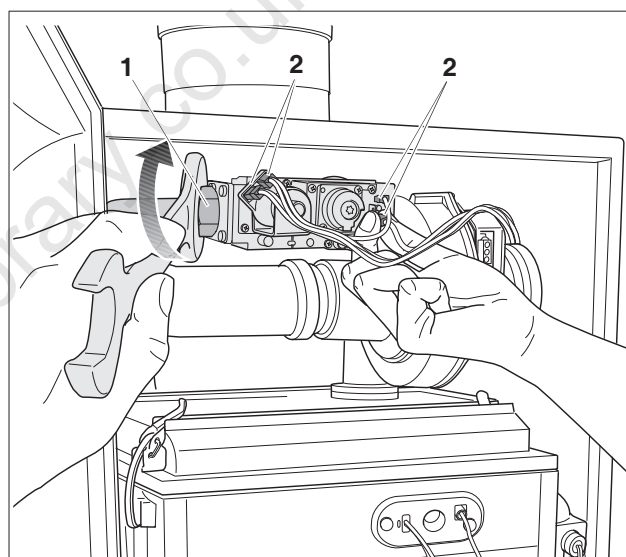

fig. 121 Undoing the connections to the gas fitting
- Undo the gas fitting screw connection (fig. 121, **item 1**) and pull the 4 connectors (fig. 121, **item 2**) from the gas valve.